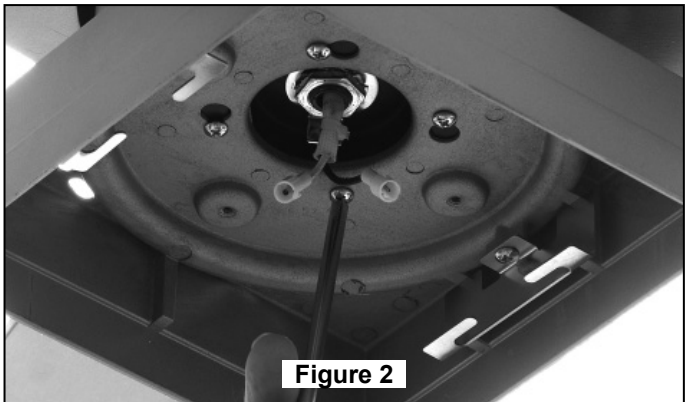

Figure 2
3. Loosen the two setscrews in the Downrod Support. Align the Clevis Pin holes in the Downrod with the holes in the Downrod Support. Install the Clevis Pin and secure with the Hairpin Clip. (Figure 2) Be sure to push the straight leg of the hairpin clip through the hole near the end of the clevis pin until the curved portion of the hairpin clip snaps around the clevis pin. The hairpin clip must be properly installed to prevent the clevis pin from working loose. Pull on the Downrod to make sure the clevis pin is properly installed.
6. While pulling up on the hanger ball, securely tighten the two setscrews with nuts in the downrod support. (Figure 2)
2. Hang the Fan Assembly (assembled earlier) into the the hanger bracket. Make sure the groove of the hanger ball is positioned on the tab of the hanger bracket. (Figure 2)
3. **Carefully ROTATE** the Hanger Bracket and Fan Assembly together to orientate the fan in the desired 'squared' position. (Figure 2)
2. Carefully lift the fan and seat the downrod/hanger ball assembly on the hanger bracket that was just attached to the ceiling joist. Be sure the groove in the ball is lined up with tab on the hanger bracket. (Figure 2)
- Slide Receiver Unit into the Hanger Bracket (Fig 2).
2. Slide the Square Motor Coupling Cover and Square Sleeve down as shown. (Figure 2)
2. Securely attach the Lower Housing Assembly to the Support bracket and tightening four screws. (Figure 2)